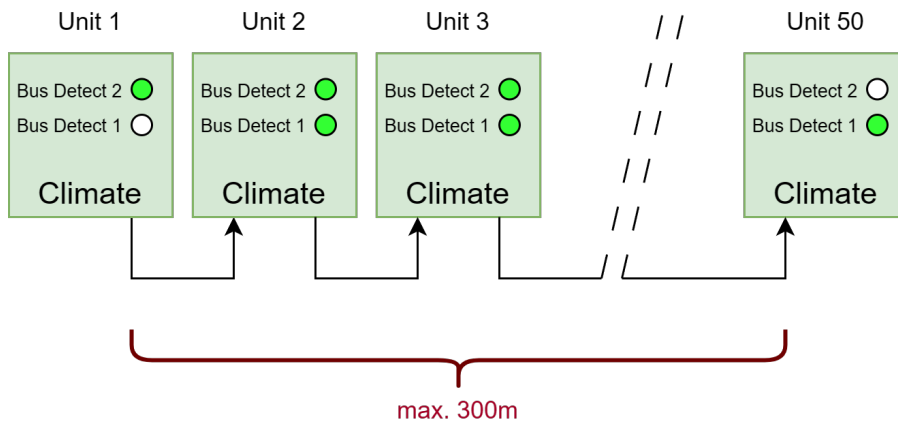

Figure 13: Example wiring with maximum length
- This is also shown in Figure 13.